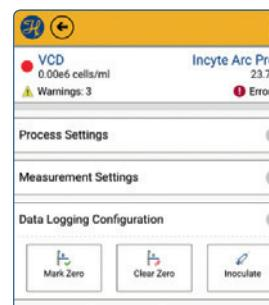

Figure 26: Sensor Settings
In the Sensor Settings (figure 26), the process settings and measurement settings can be adjusted.
- 2) Select «Measurement Settings» (figure 26).
- 2) Select «Process Settings» (figure 26).